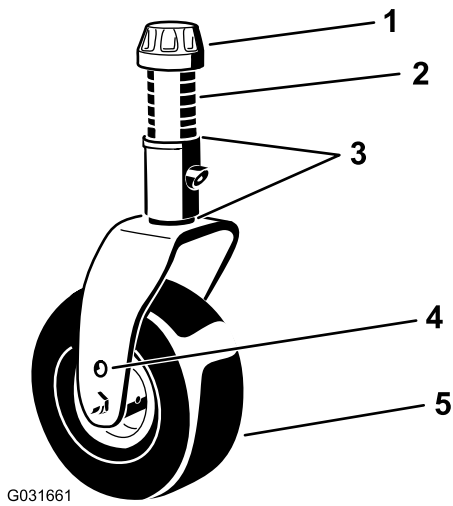

Figure 19
4. Using the supplied caster-cap wrench, loosen the tensioning cap and remove it from the caster-spindle shaft and slide the caster shaft out of the caster arm (Figure 19).
- Install the shims (as originally installed) and the remaining spacers onto the shaft (Figure 19).
- Install the tensioning cap and tighten it with the supplied castor-cap wrench to secure the assembly (Figure 19).